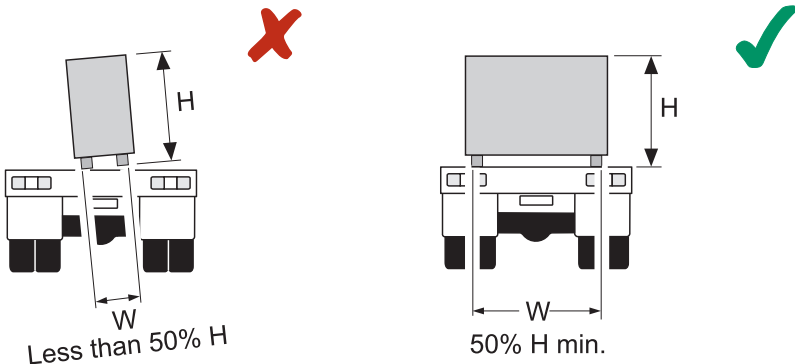

Fig. B.17 UNSTABLE SIDWAYS
Tall loads are unstable sideways if the width (W) measured across the vehicle, is less than 50% of the height (H) (see Figure B.17).